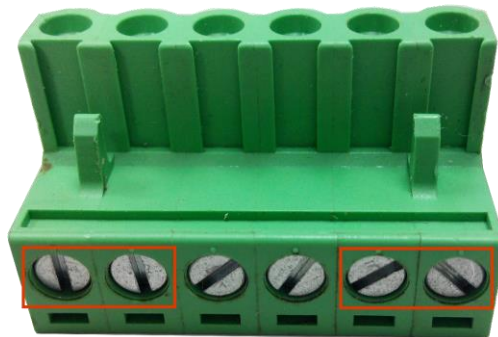

Figure 2.15: Power Terminal Block
Step 2. Tighten the wire-clamp screws to prevent the wires from loosening, as shown below in Figure 2.15.